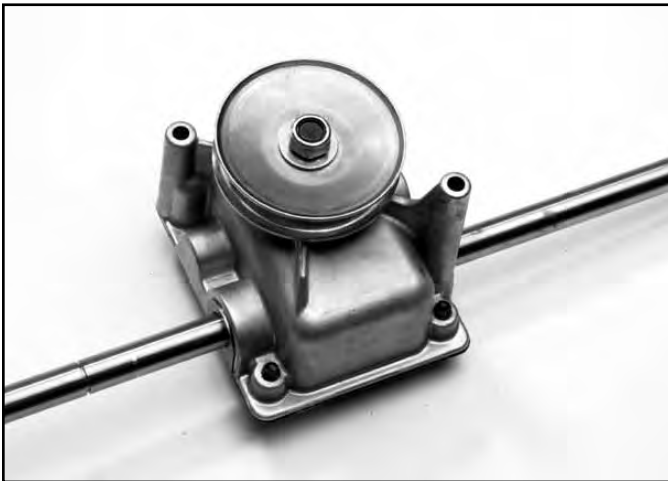

Fig 031
7. The transmission can be moved to the right until the short end of the axle clears the housing and the transmission can be removed (Fig. 031). Some models have the axle shaft retained by an end cap.